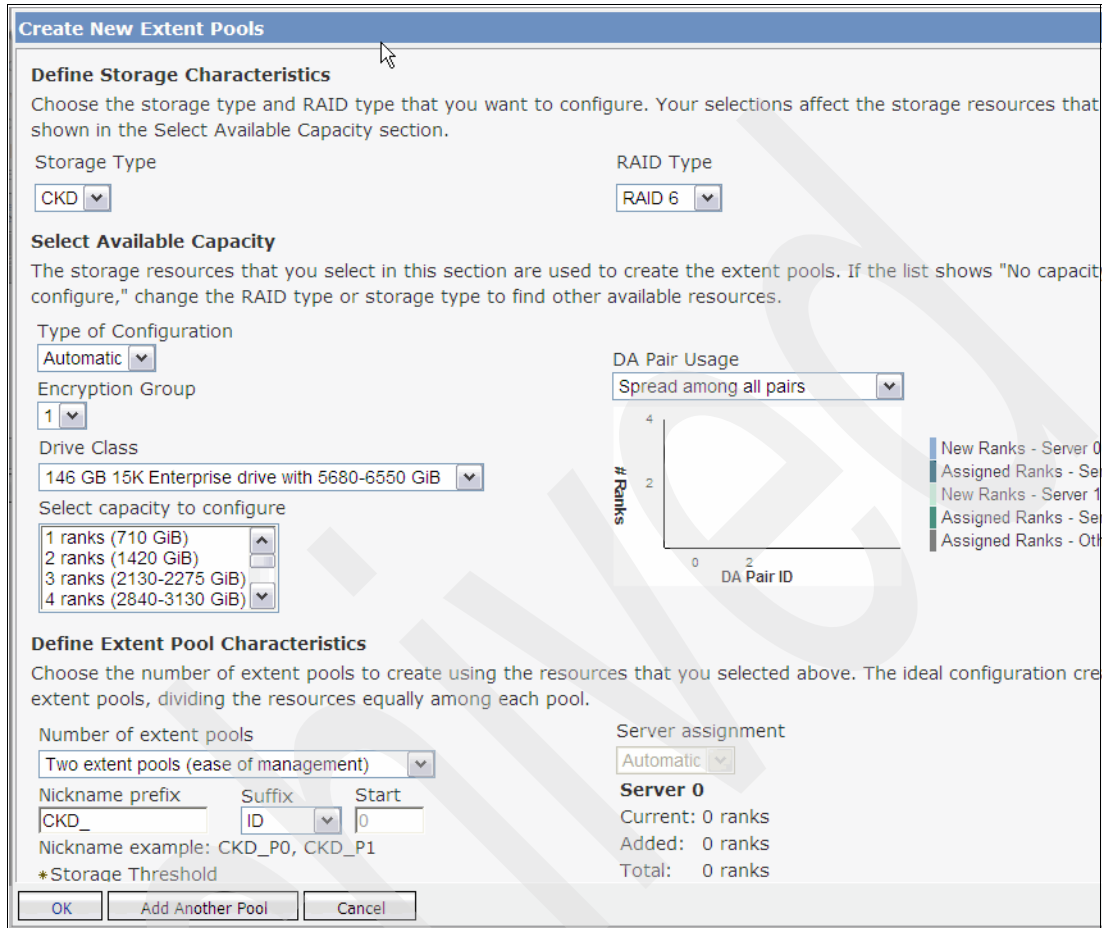
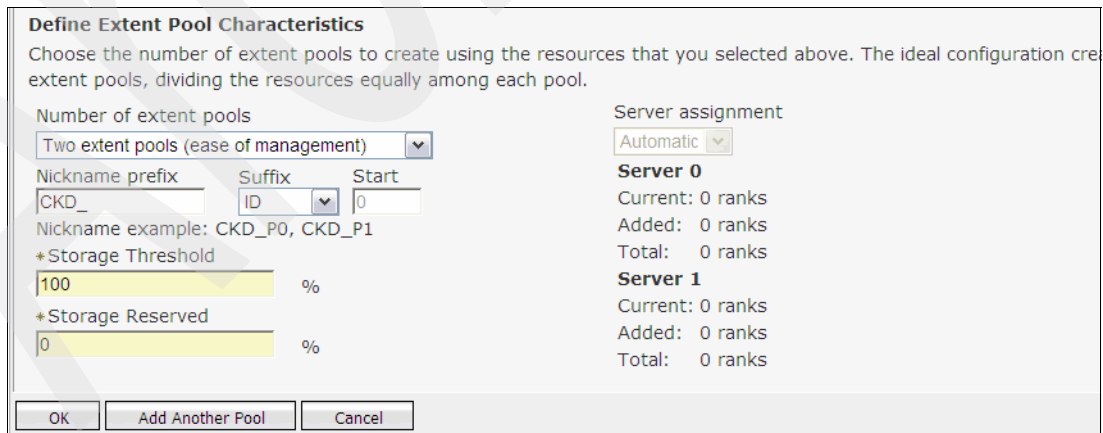

Figure 13-37 Create New Extent Pools window: Part 1
Figure 13-38 Create New Extent Pools window: Part 2
- The Create New Extent Pools window opens, as shown in Figure 13-37. Scroll down to see the rest of the window and provide input for all the fields, as shown in Figure 13-38.